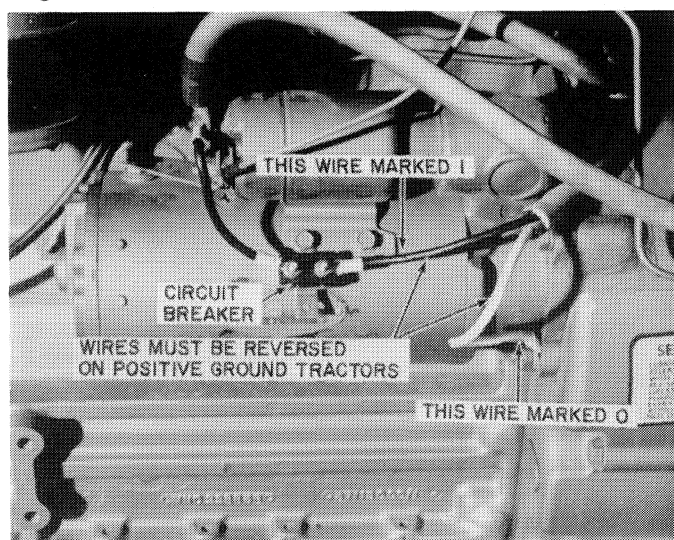

FIGURE 7
Mount circuit breaker as close as possible to the "HOT" terminal of the power source. See Figure 7.
**NOTE:** FIGURE 7 SHOWS A TYPICAL INSTALLATION WHERE A STARTER IS USED AS THE POWER SOURCE ON A **NEGATIVE** GROUND SYSTEM. WIRES I AND O, FIGURE 7, MUST BE REVERSED ON POSITIVE GROUND TRACTORS.